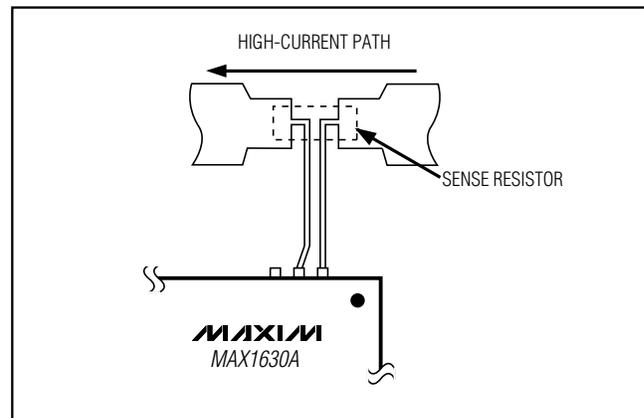

Figure 7. Kelvin Connections for the Current-Sense Resistors
- Priority 1: **Minimize current-sense resistor trace lengths** and ensure accurate current sensing with Kelvin connections (Figure 7).